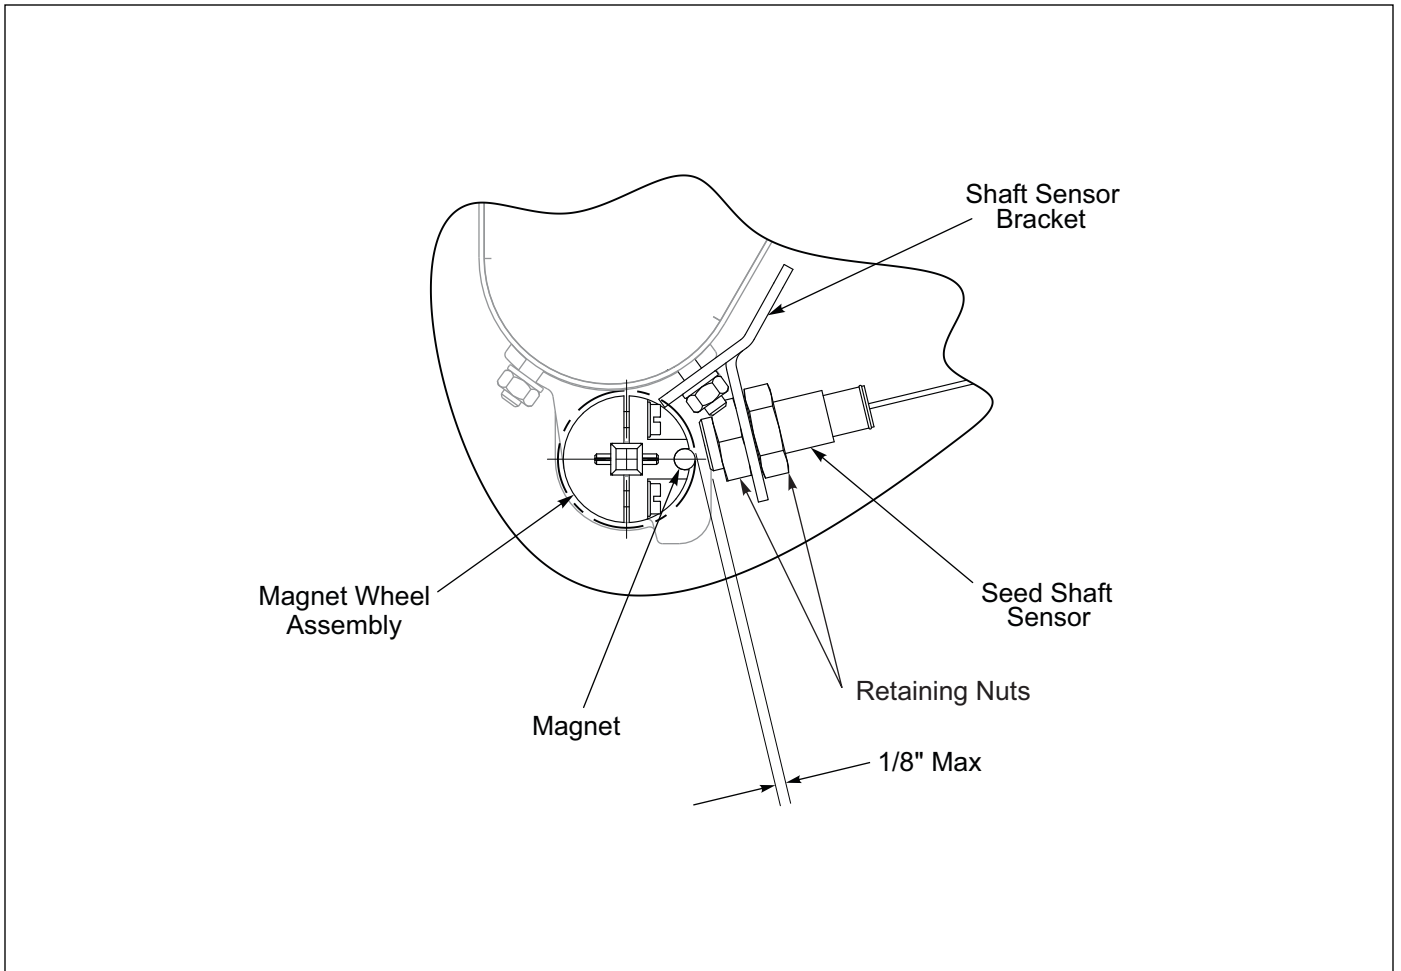

Figure 2-27: Seed Shaft Sensor Mounting Dimensions - Seed Meter
8. Position Seed Shaft Sensor so it is 1/8" from the Magnet Wheel Assembly. **See Figure 2-27.** Tighten both Seed Shaft Sensor Retaining Nuts.